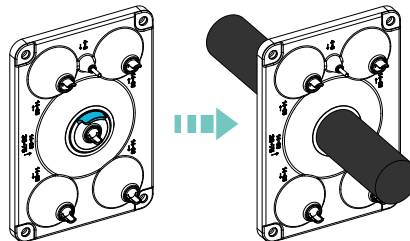

Figure 4-7b Route 3-core or 4-core outdoor wire
- For three-core or four-core outdoor cable, refer to Figure 4-7b.